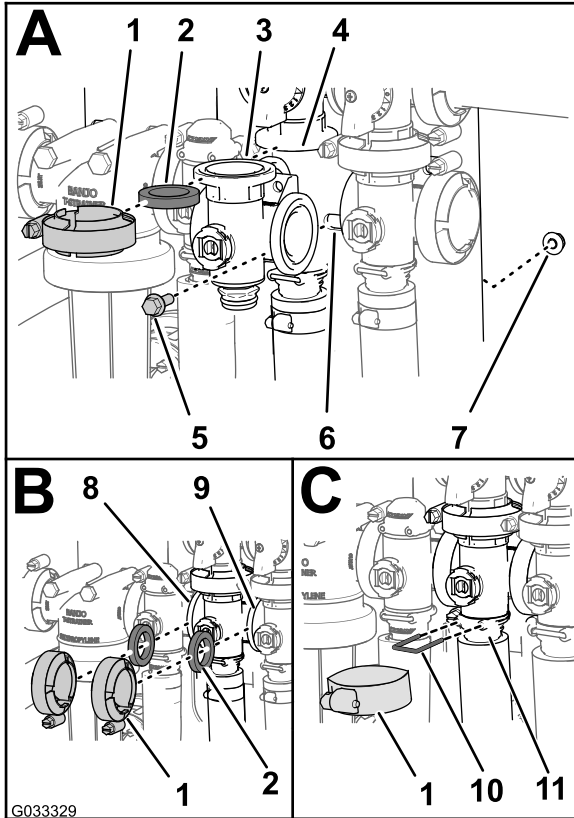

Figure 76
1. Align the flange of the agitation-valve manifold, 1 gasket, and the flange of the agitation-bypass valve (A of Figure 76).
5. Align a gasket between the flanges of the agitation-valve manifold and the master-boom valve (B of Figure 76).
6. Assemble the agitation-valve manifold, gasket, and master-boom valve with a clamp tightened hand-tight (B of Figure 76).
7. Assemble the agitation-valve manifold and socket with a clamp tightened hand-tight (C of Figure 76).
8. Secure the end-cap fitting to the outlet fitting by inserting a retainer into the socket of the outlet fitting (C of Figure 76).
2. Assemble the agitation-bypass valve, gasket, and agitation-valve manifold with a clamp tightened hand-tight (A of Figure 76).
3. Align a gasket between the flanges of the rate-control valve and the agitation-valve manifold (B of Figure 76).
4. Assemble the gasket and agitation-valve manifold with a clamp tightened hand-tight (B of Figure 76).